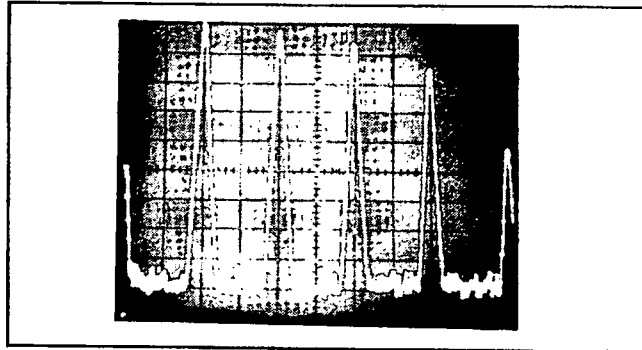

Figure 4-26. Store Button Released.
video amplitude on the display is the same for each pair of X-Axis segments. Because of this redundancy, a series of dots appear on the display (Figure 4-26). The dots are automatically cleared when the memory contents are updated by a new frequency sweep.
4-172. Notice that the (L)COUNT line is driven low from 00100100000000 to 11000000010000. The difference of these two binary numbers is 10011100010000; the decimal equivalent of this is 10,000. So, the (L)COUNT line goes low for 10,000 counts. Since the binary number is counting at a rate of 50 kHz (Q1 is a 25 kHz square wave) each count is 20 μ sec in duration. The (L)COUNT line goes low for 10,000 counts times 20 μ sec/count, or 200 msec. The accuracy of this time is dependent on the accuracy of 100 kHz Reference signal. The remaining time durations of the control pulses can be calculated in this manner; they are illustrated in Figure 4-26 for your convenience.